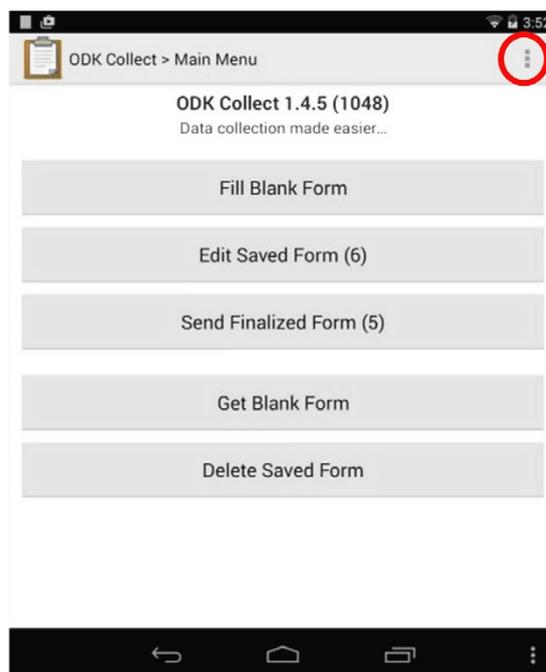

Figure 5. ODK Collect Main Menu screen. Settings menu icon highlighted in red circle.
Click on menu icon on main ODK page (see Fig. 5). Select "General Settings"; Click on "Configure platform settings" and enter the following
- On main ODK page. Click on "Get Blank Form" (Fig. 5).
- On main ODK page. Click on "Fill Blank Form" (Fig. 5).
Once the survey is completed click on “Save Form and Exit”. The completed forms will also be sent when a WI-FI connection is available. Open ODK. Saved forms will either be sent automatically or click on “Send Finalized Form” button on the main ODK menu screen (Fig. 5).
Open the MLN SEED Survey Form v1.0 or the newest version on main ODK page. Click on “Fill Blank Form” (Fig. 5). Select MLN SEED Survey Form v1.0. Swipe screen and fill in form. Enter text or select options from lists. To collect GPS coordinates. Click on “Record Location” button. Once the GPS signal has been received the latitude, longitude and elevation will be automatically recorded.